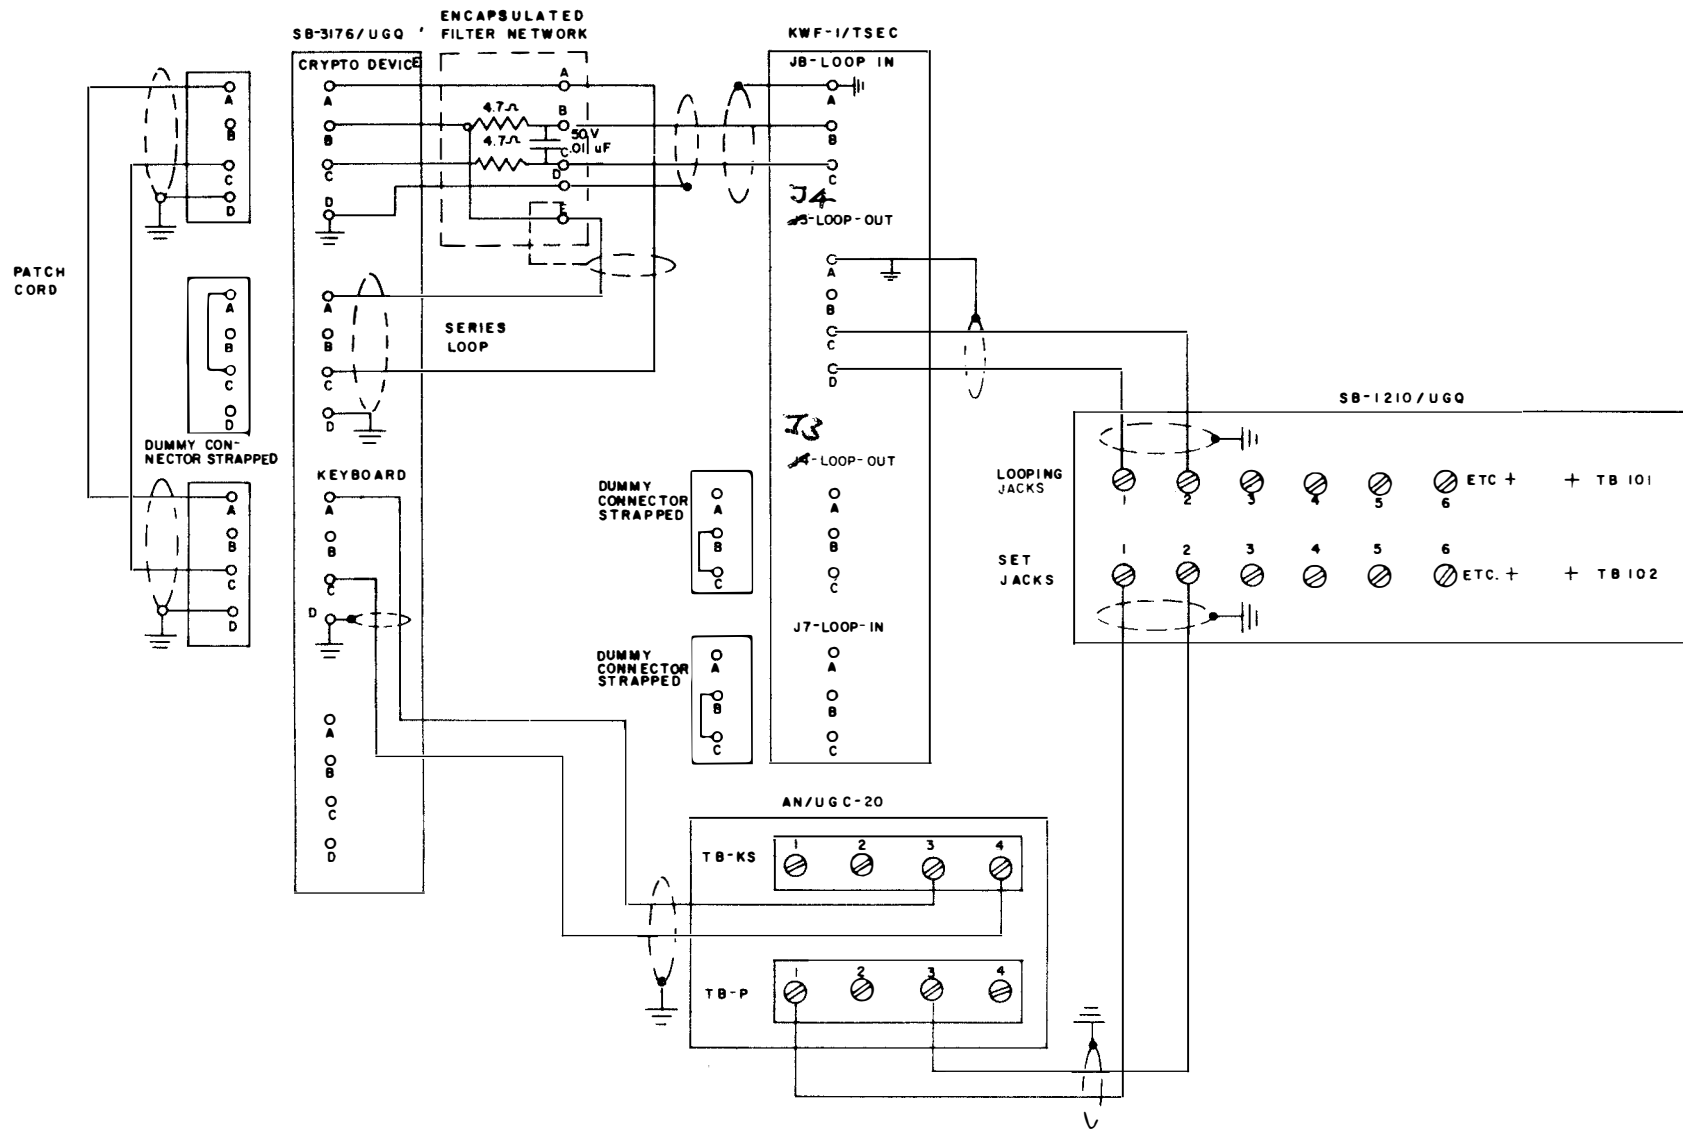

Figure 2.8 Typical System Installation Using the AN/UGC-20 Teletypewriter
Figure 2.8 shows a typical cryptographic system using the AN/UGC-20 Teletypewriter.
- Page 2-15, Figure 2.8, under KWF-1/TSEC